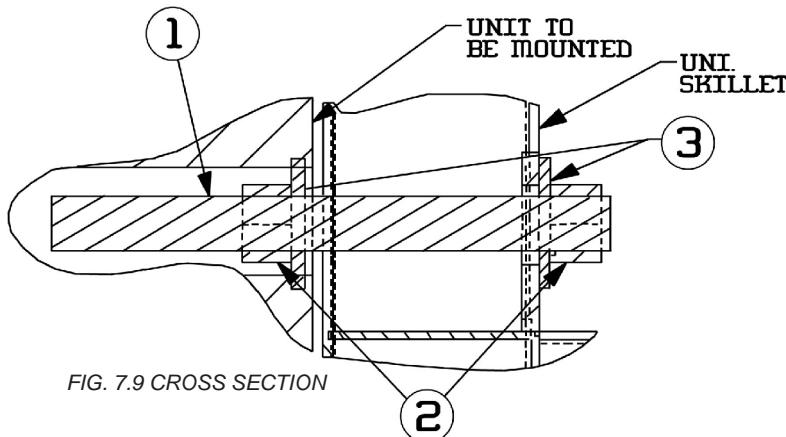

FIG. 7.9 CROSS SECTION
3. If feasible at this time align skillet with adjoining unit. Threaded Bolt (Item 1) should slide thru mounting location provided on allGF Market Forge modular assembly frames. Attach using Washers (Item 3) and Nuts (Item 2) to inside of adjoining unit. Hand tighten washer and nut into place. Repeat this procedure for all lower mounting holes. (4 places) (See Fig 7.9)
TABLE FOR FIG. 7.9